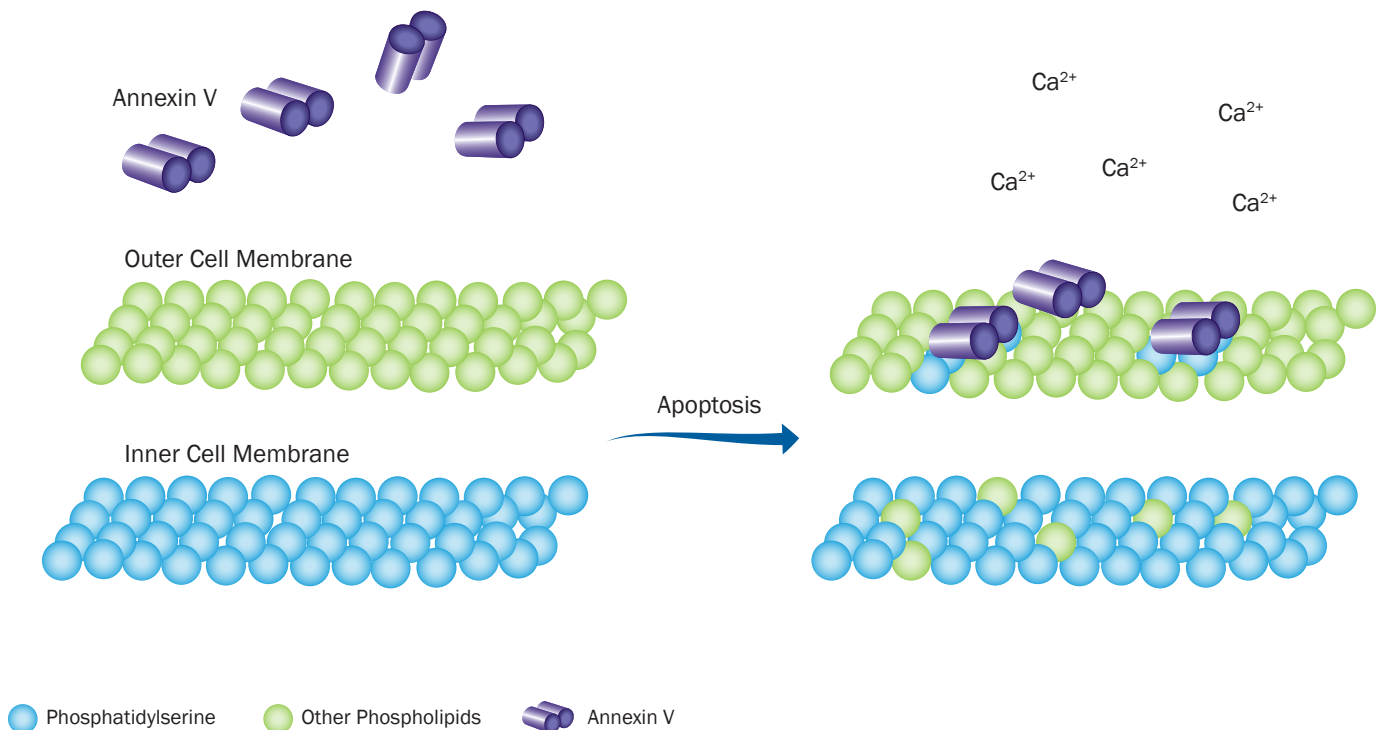

Figure 1 - Schematic depiction of phosphatidylserine flipping during apoptosis and subsequent detection using Annexin V.
Apoptosis is often defined by morphological criterion accompanied by biochemical analysis. Apoptosis is characterized by a number of intracellular phenomena such as membrane blebbing, chromatin condensation, and nuclear DNA fragmentation. Early in the apoptosis process, phosphatidylserine (PS) becomes exposed on the cell surface by flipping from the inner to outer leaflet of the cytoplasmic membrane (Figure 1). This event is thought to be important for macrophage recognition of cells undergoing apoptosis, thus allowing the cells to be rapidly phagocytosed. The binding of Annexin V to phosphatidylserine is calcium-dependent and reversible, but very tight, with a K_d of approximately 5×10^{-10} M. At low PS concentration, a binding ratio of eight Annexins to one PS has been reported. These features make Annexin V conjugates ideal for identifying membrane changes associated with apoptosis, by using either flow cytometric or *in situ* labeling methods. Annexin V allows for the identification of cell surface changes that occur early during the apoptotic process.